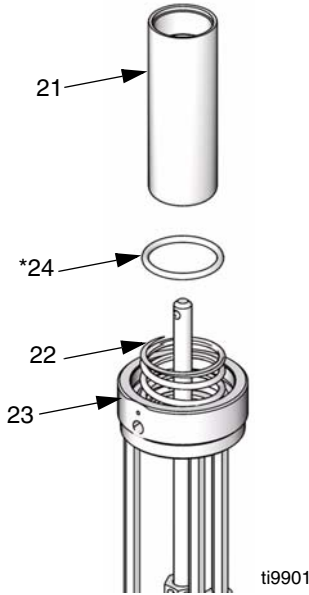

FIG. 14
- Slide air piston (21) out the top of the air motor base (23). Remove o-ring (24\*) from air motor base. Inspect all parts, including the spring (22) in the air motor base, for damage. See FIG. 14.